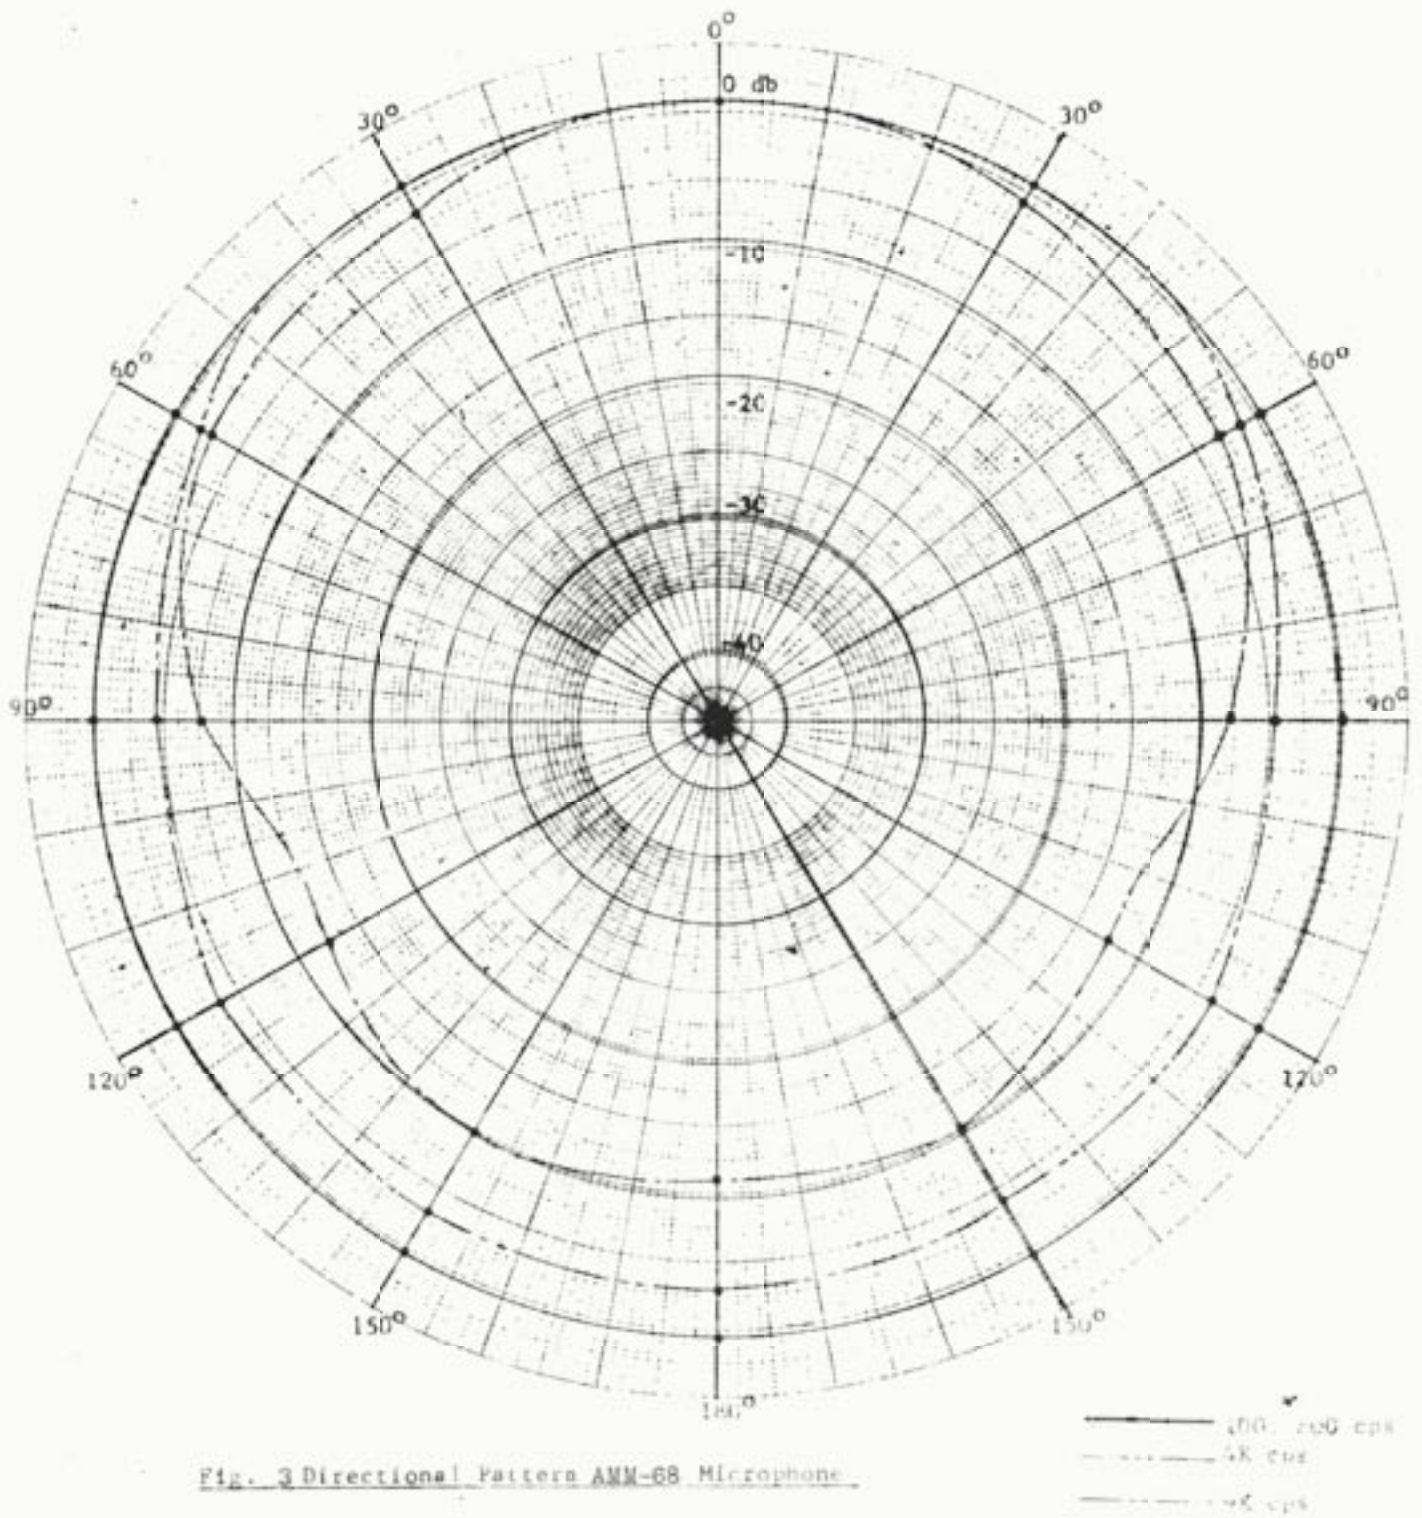

Fig. 3 Directional Pattern AMM-68 Microphone
- 4.1. Directivity: Omni-directional - refer to fig. 3.